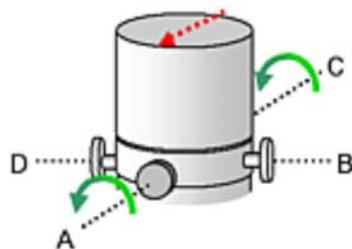

Figure 5.2-8 Operating the Electron Gun Axis Adjustment Knobs (1)
- 4b.** In the next step, turn one of the knobs (for example, Screw A in Figure 5.2-8) in a fastening direction. When it becomes tight, loosen the knob in the opposite direction (in Figure 5.2-8, Screw C), and then turn Screw A further in the tightening direction. During this operation, turn the knob while paying attention to the image. When an image appears, adjust the knobs in the direction of a brightening image.